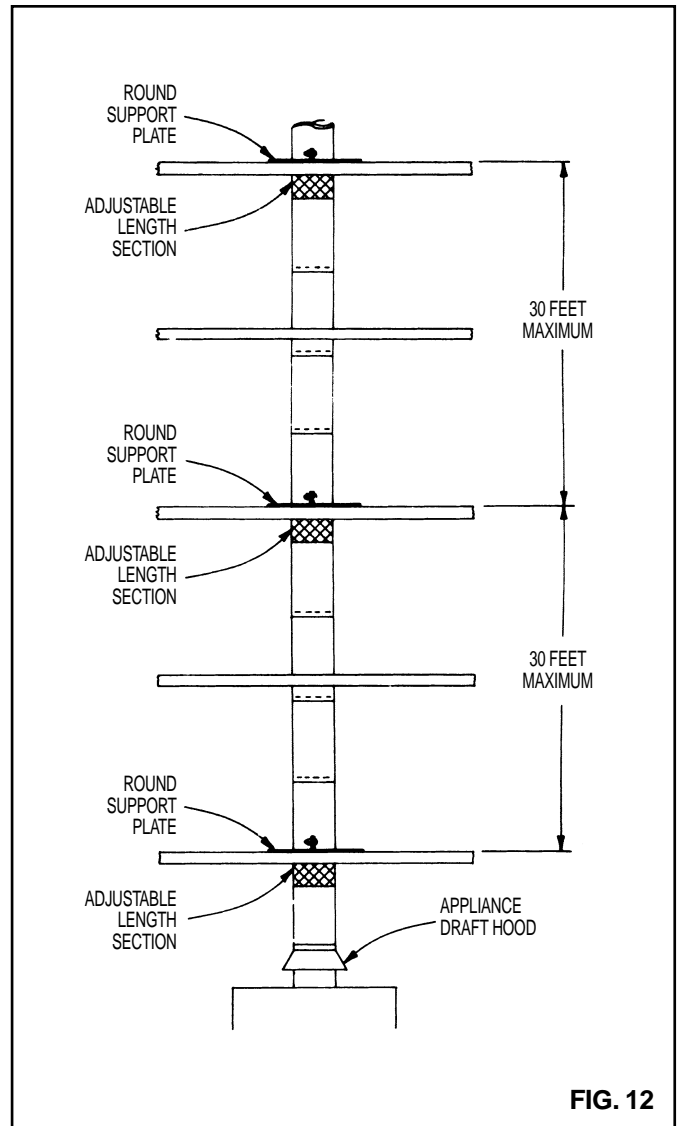

FIG. 12
4. Mounting holes are provided around the perimeter of the Round Support Plate. Use appropriate fasteners to secure the Support Plate halves to the opening between floors. (**NOTE:** Round Support Plates should be attached to the TOP of the opening only. See **Fig. 12.**)
5. For installations with multiple supports, an Adjustable Length Section of Type B Gas Vent should be installed between each pair of locations where a support is used. (See **Fig 12.**) This allows the location of the pipe recess to be in the proper position at each opening where a support is to be used. The Adjustable Length Section also provides relief for linear thermal expansion. The Adjustable Length Section should be positioned directly under the Vent Pipe Section which is being supported. **NOTE:** When installed with the entire vent in a vertical position as shown in **Fig. 12**, the clamps on Adjustable Length Section should be left loose to allow for expansion. (See section titled "Adjustable Length Sections" on **Page 7.**)